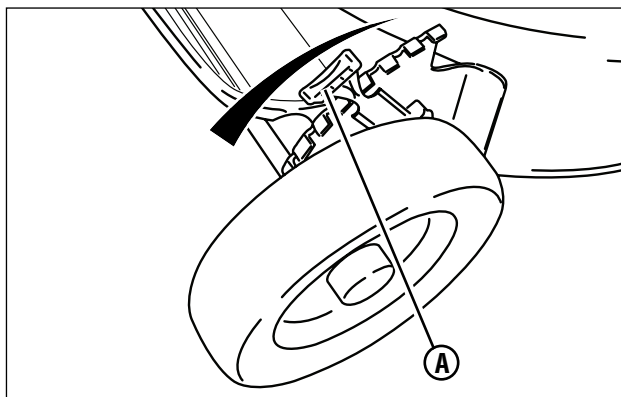

Figure 7: Adjusting cutting height
1. Pull the height adjusting latch (A, Figure 7) outward and move to the desired cutting height.